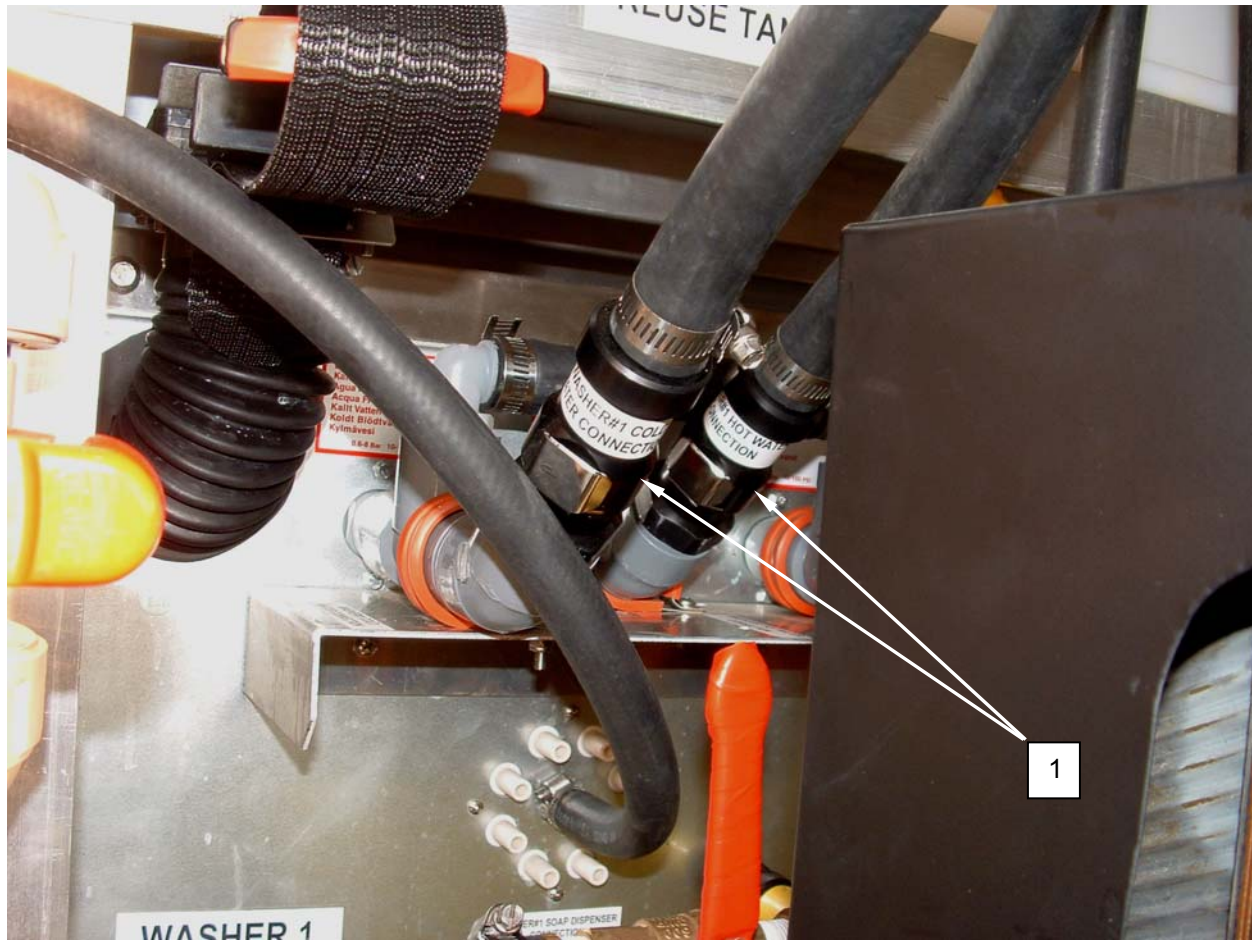

Figure 1. Replace the Washer QD Fittings.
3. Disconnect QD fitting (**Figure 1, Item 1**).
4. Secure the attached piping with one pipe wrench, and use a second pipe wrench to remove the male half of the QD fitting (**Figure 1, Item 1**) from the washer.
5. Secure the attached piping with one pipe wrench, and use a second pipe wrench to install the replacement male half of the QD fitting (**Figure 1, Item 1**) onto the washer.
6. Loosen the hose clamp on the female half of the QD fitting (**Figure 1, Item 1**), and remove the female half of the QD fitting from the hose.
7. Install the replacement female half of the QD fitting (**Figure 1, Item 1**) onto the hose, and tighten the hose clamp to secure. Connect QD fitting.